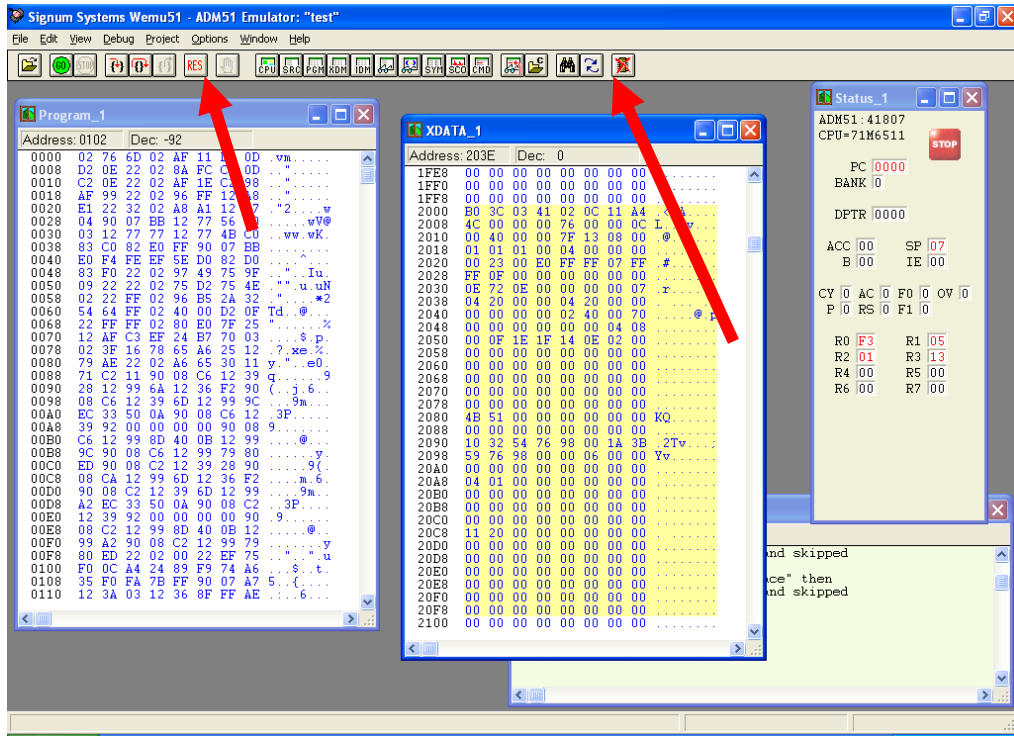
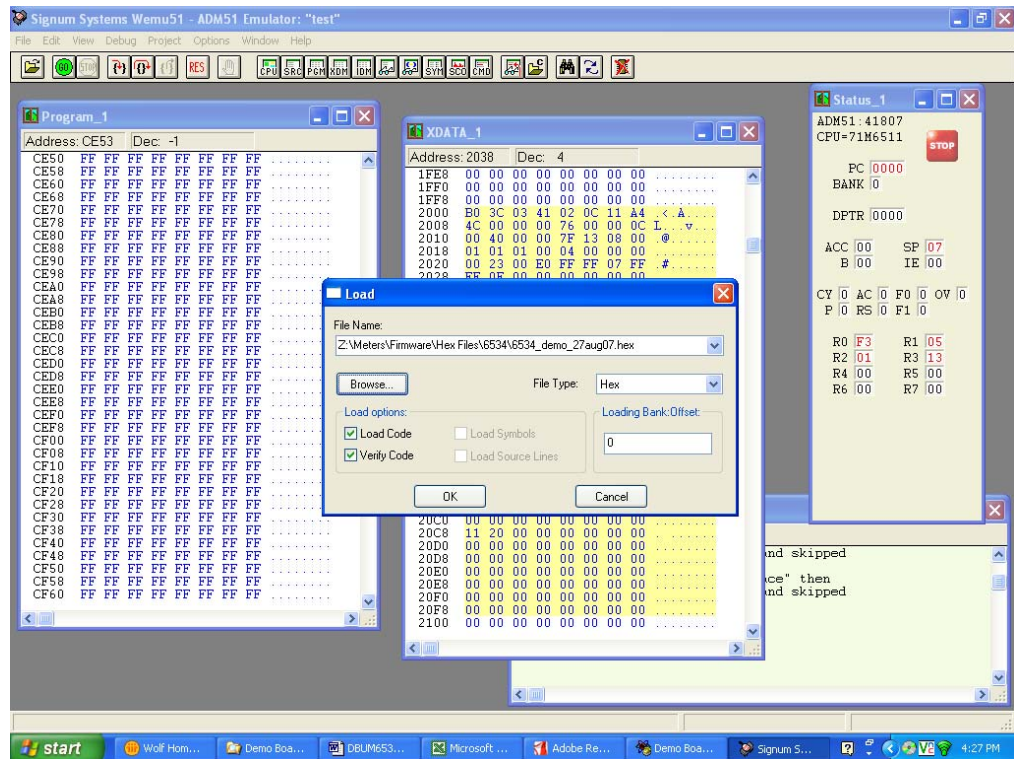

Figure 1-7: Emulator Window Showing Reset and Erase Buttons (see Arrows)
Figure 1-8: Emulator Window Showing Erased Flash Memory and File Load Menu
**In-Circuit Emulator:** If firmware exists in the 71M6534/6534H flash memory; it has to be erased before loading a new file into memory. Figure 1-7 and Figure 1-8 show the emulator software active. In order to erase the flash memory, the RESET button of the emulator software has to be clicked followed by the ERASE button ().
Once the flash memory is erased, the new file can be loaded using the commands File followed by Load. The dialog box shown in Figure 1-8 will then appear making it possible to select the file to be loaded by clicking the Browse button. Once the file is selected, pressing the OK button will load the file into the flash memory of the 71M6534/6534H IC.